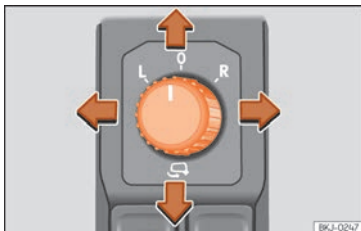

Fig. 149 Exterior mirror controls.
1. Turn knob » » » Fig. 149 to position **L** (left exterior mirror).
- Turn the control » » » Fig. 149 to position » to fold in the exterior mirrors. You should always fold in the exterior mirrors if you are driving through an automatic car wash. This will help prevent damage.